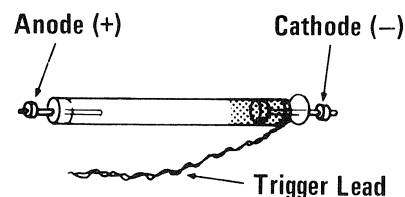

Figure 3-14. Flashtube Polarity
3.3.2 POLARITY. The polarity of the flashtube should be checked when replacing the tube. The positive, high voltage lead (red) should be connected to the anode. The negative lead (blue), be connected to the cathode, identified by the position of the trigger lead on the outside of the glass envelope. Fig. 3-14.